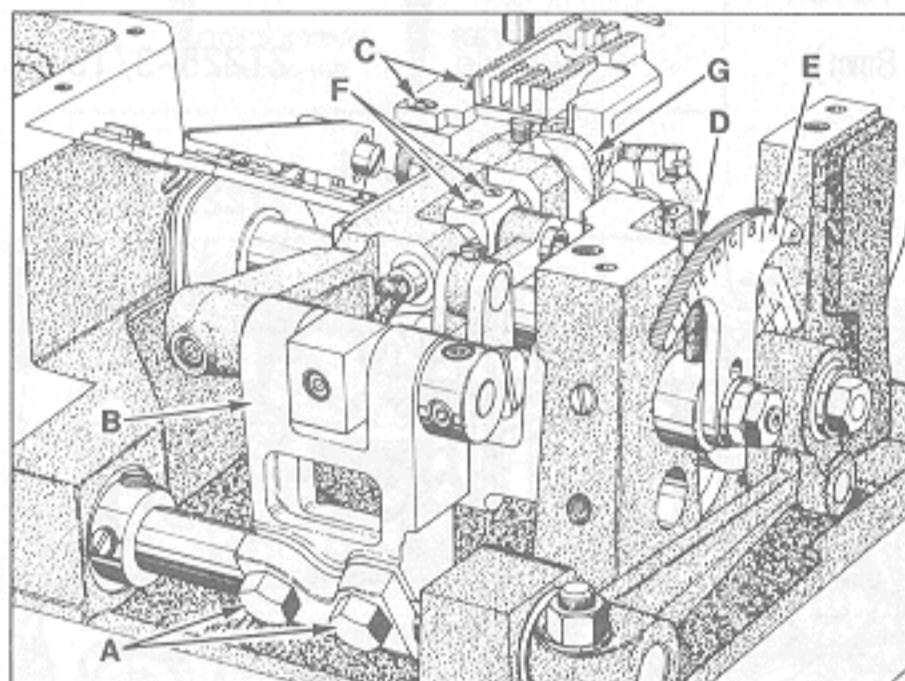

Fig. 10
To center main feed dog in throat plate slots, front to back or differential feed dog, left to right, loosen screws (A, Fig. 10), reposition feed rocker (B) slightly as required, retighten screws. Loosen screws (C) allowing main feed dog to be centered in throat plate slots left to right, retighten screws.
The differential feed ratio is set by loosening screw (D, Fig. 10) and moving the selector slide (E) to the desired position. The screw and selector slide are accessible through the top of the cloth plate on the left side. Moving differential feed selector slide (E) toward the front increases the amount of differential and moving it back decreases the differential feed. Retighten screw.